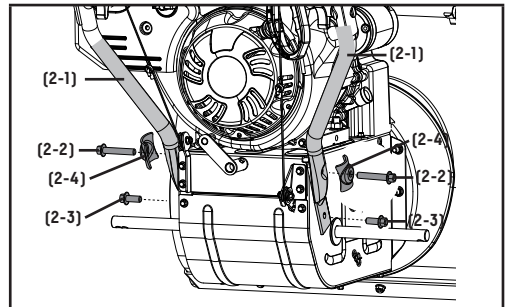

Figure 2
1. Attach the lower handle (2-1) onto the unit body with bolts (2-2, 2-3) and washers (2-4) (Fig. 2). Repeat on the other side.